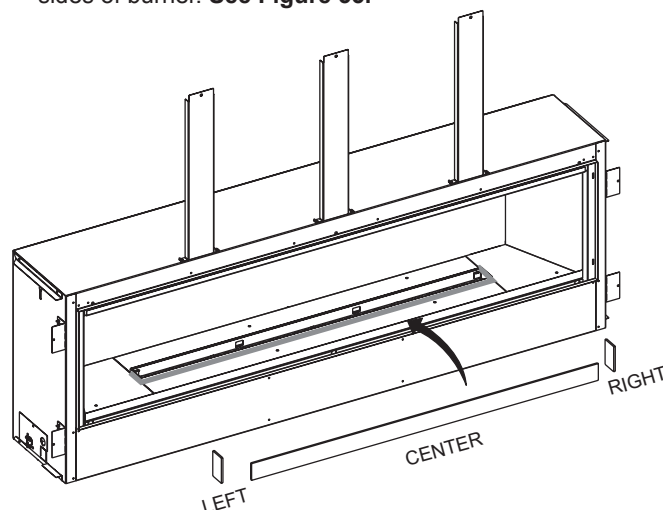

Figure 55
5. Retrieve the 3 glass panels and install on front and both sides of burner. **See Figure 55.**